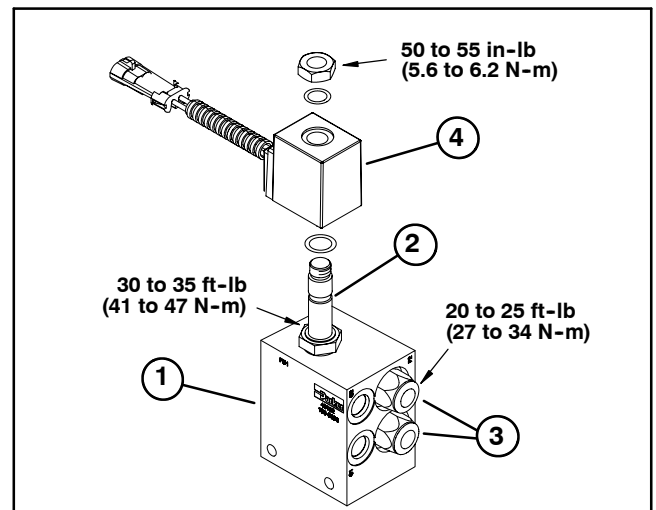

Figure 100
The flow divider on machines with serial numbers from 200000001 to 210000400 consists of a three (3) port manifold and a flow divider cartridge. The flow divider on machines with serial numbers above 210000400 includes a solenoid cartridge valve and two (2) flow regulator cartridges (Fig. 100).